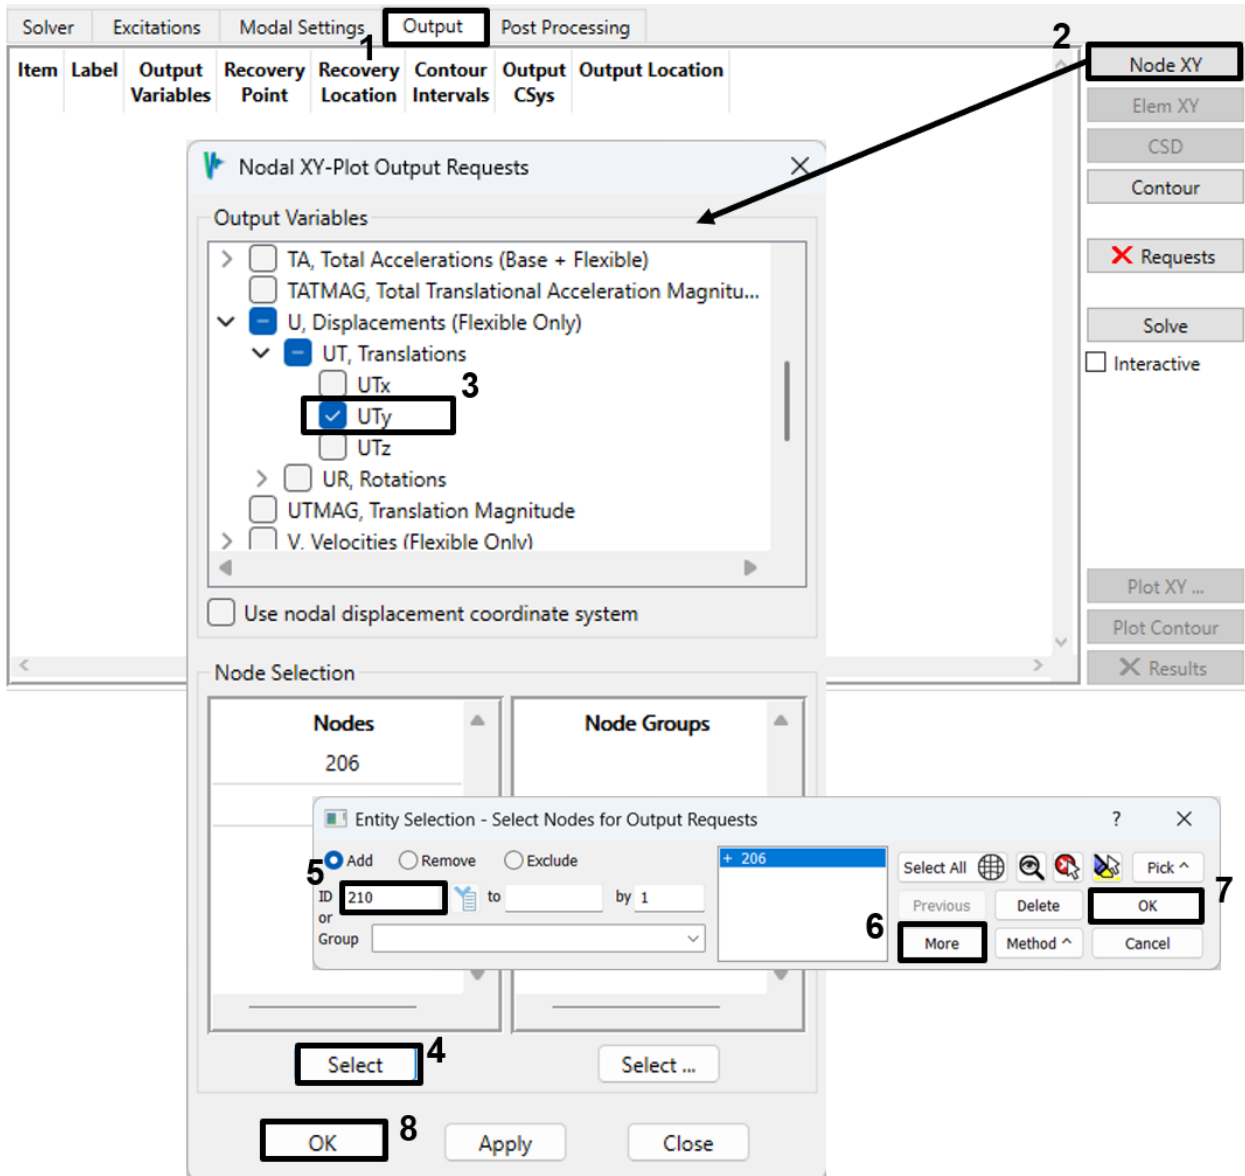

Figure 4-134. Request Y direction displacement XY output for nodes 206 and 210.
10. Go to the *Output* tab. To get a measurement of the relative displacement of the two monitored DOF over time, create a Nodal XY Plot output request for the Y displacement ( $U_y$ ), as shown in Figure 4-134. Select nodes 206 and 210.